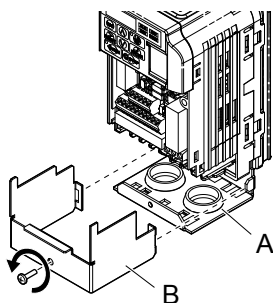

Figure 8.11 Remove the Terminal Cover on a NEMA Type 1 Drive
2. Loosen the screw on the terminal cover (**Figure 8.11, B**) to remove the terminal cover and expose the conduit bracket (**Figure 8.11, A**).